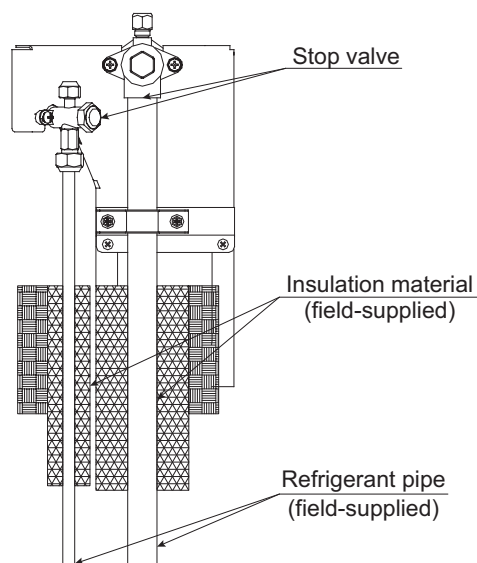

Figure 8.2
- Apply thermal insulation to the refrigerant pipes as shown in Figure 8.2. After completion of piping connection, use field supplied insulation material to apply thermal insulation to the gas pipe, liquid pipe and check joint, connecting part such as connecting nut, etc., and use adhesive tap to wrap the exterior surface of them so as to prevent heat loss and condensation on the pipe surface.